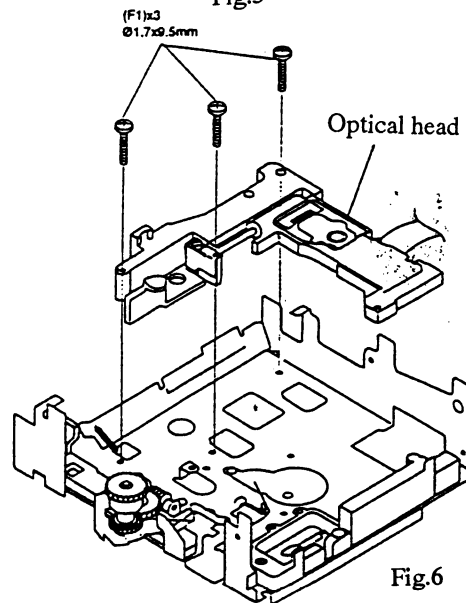

Fig.6
- Optical pick up take off (refer to Fig.6)